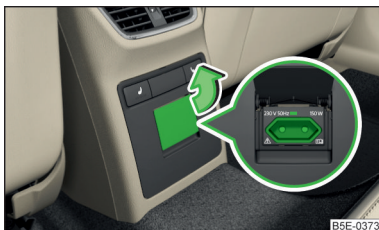

Fig. 94
- Fold out the lid on the power socket in the direction of the arrow » Fig. 94.